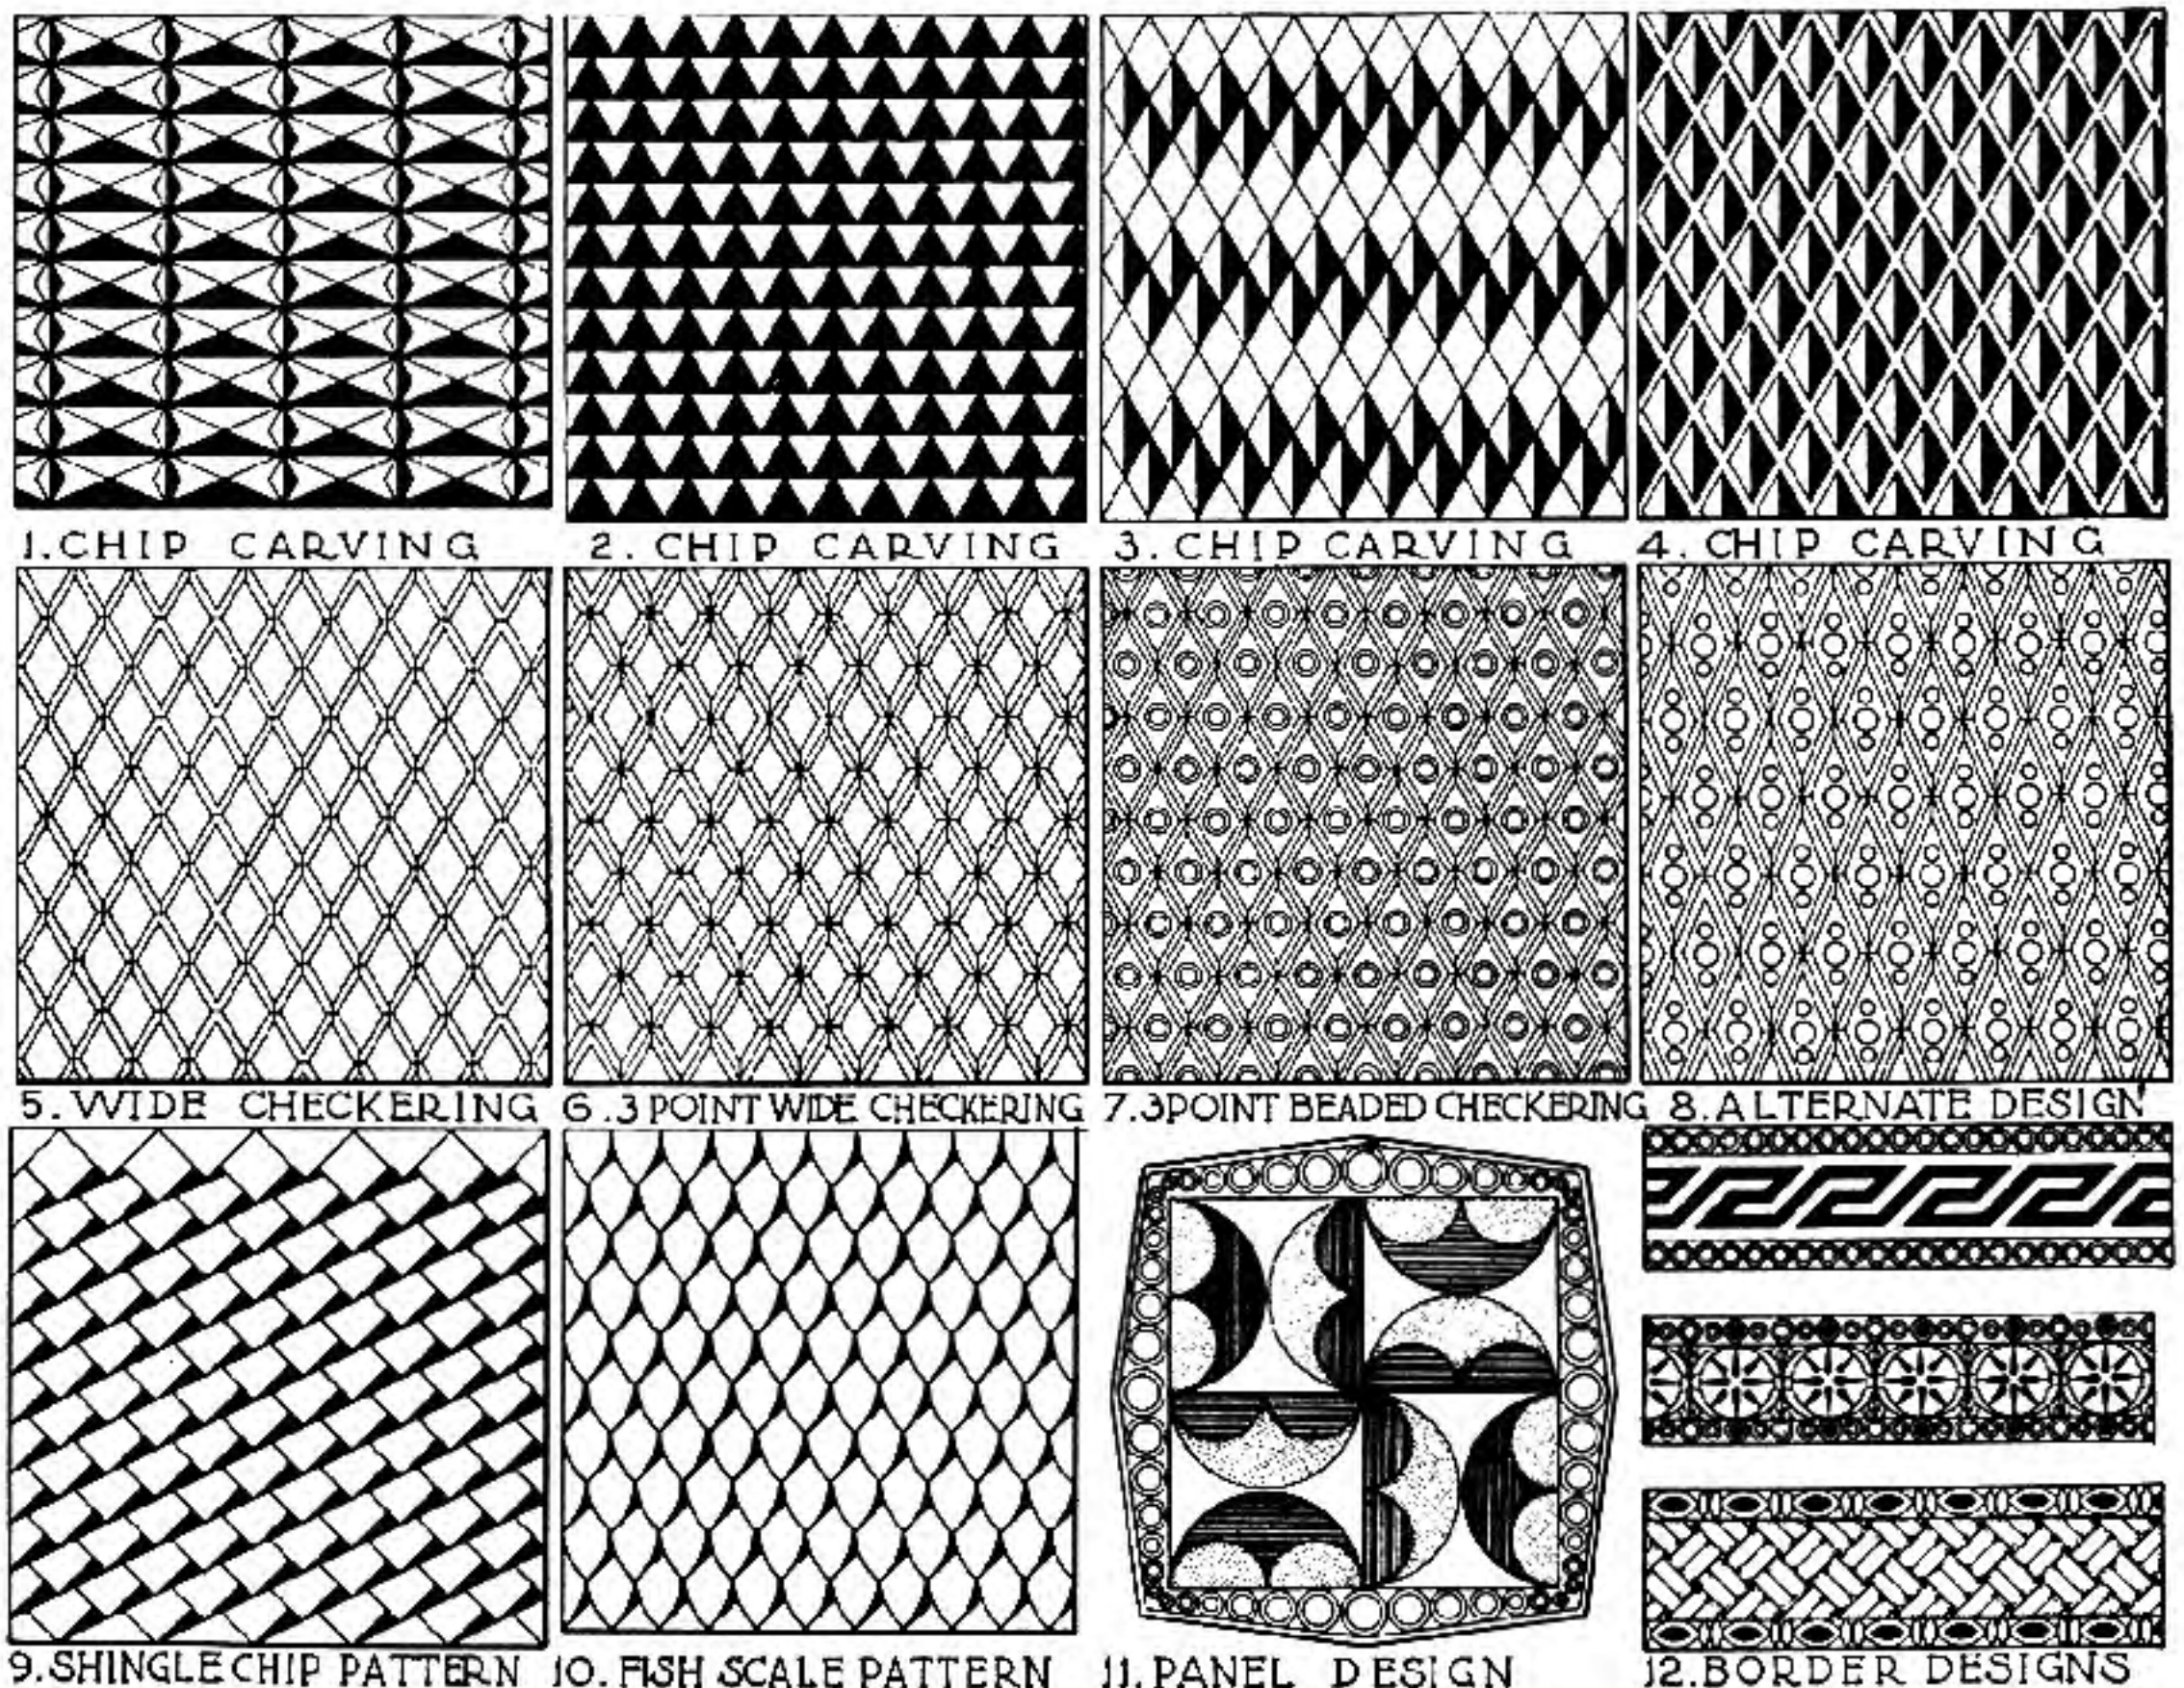

Fig. 92
only two tools required for this work, the matting and round beading tools. Figure 92 will give the beginner various ideas for borders. The supply of designs may be worked out in various ways; they may be made very elaborate, far superior to carving on a gun stock, and more in keeping with a checkering design. Carving is a beautiful way of expressing artistic ability, but it is more or less overdone on some German arms. The beaded and matted borders are a form of design completely appropriate for checkering.
The demonstration of such border designs on any stock will prove their object even among the most skeptical of critics, for it shows without a doubt that it completes something which is lacking on the checkering design. When a plain border is added, it lacks the finishing touches. It is far better to have only the one border line around the complete design, and at the extreme points use the  $\frac{1}{16}$  or  $\frac{3}{32}$  inch diameter beading tools to place one indentation, which is a circle. This looks as tho the points ended at a given distance instead of running out to a plain unfinished point. Figure 92 illustrates parts of borders. The student may practise on sample pieces to form some idea of what possibilities may be worked out to suit his fancies.
**Carving —** This branch of the gunmaker's trade is seldom used except in the rare cases when a customer wishes such work. The leaf, flower, animal, Gothic, or any nature-study design applied to a stock seems rather inappropriate. The plain chip design such as Figure 92 shows is more in keeping with a well designed stock but is rather difficult to execute. In the past, I have had two wood carvers work for me; I was greatly interested in their ingenuity and artistic ability, and particularly in their complete sets of carving chisels and other tools in their possession.
Suppose you have selected No. 1 in Figure 92 for your carving. It is very much like a checker-ing design. This is a test of endurance, and as an experimental effect with carving tools, repeat the same-shaped diamonds until you have filled the entire space of the lay-out you have made for the forearm. All this work is done with thin flat chisels; by the time you have completed it, you will begin to understand and appreciate one of the fundamental qualities which go toward the making of a carver, namely, patience. You will have produced a thing which may give you pleasant surprises and elicit very natural admiration from your friends.